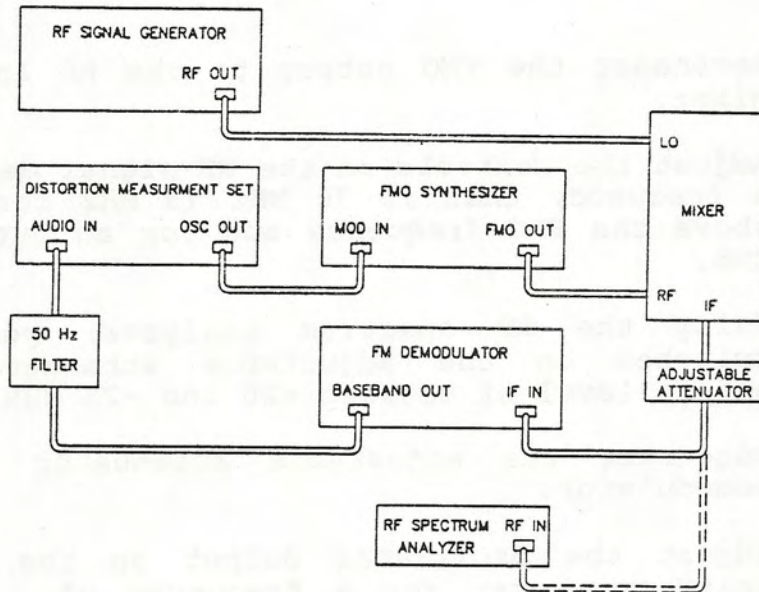

Figure 5-13
1. Connect the equipment as shown in Figure 5-13.